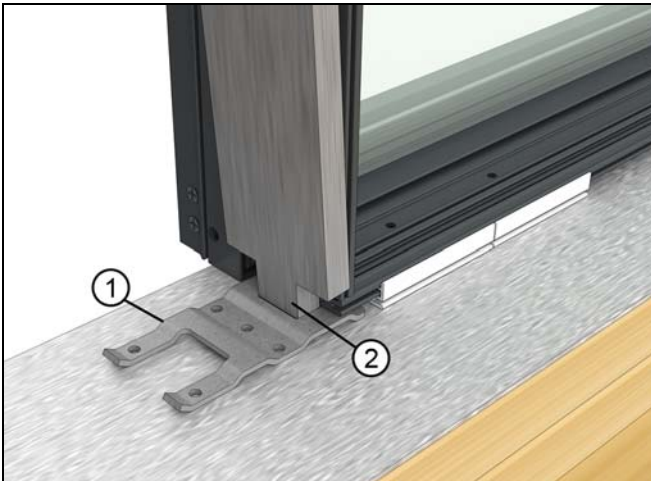

Figure 43
12. Position the steel tight against the step in the frame and so the tab on the mull steel fits in the hole in the sill bracket. Then clamp the steel to the frame. See Figure 43, Figure 44, and Figure 45.